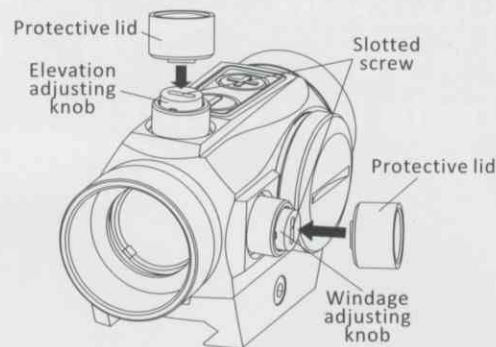

Fig 5
1. On top of sight is the elevation adjusting knob, windage adjusting knob is on the right side (see Fig5). The sight has been primarily adjusted in factory.
2. The Convex platform on the protective cap can be used for zeroing alignment (see Fig5).